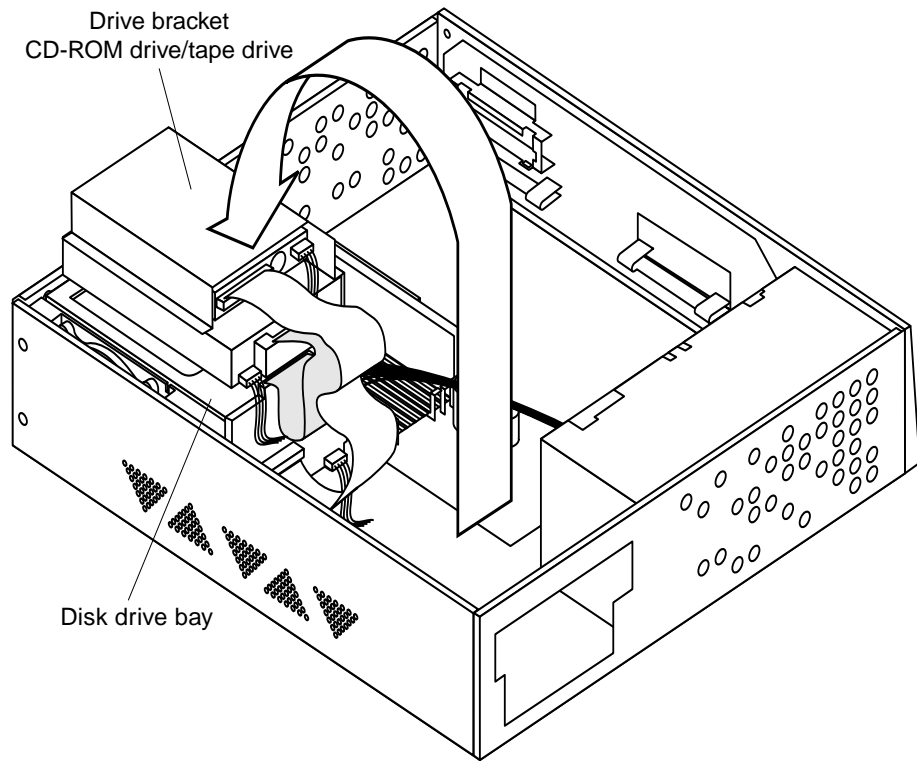

FIGURE 8-23 Placing the Bracket on Top of the Disk Drive
- 5. Position the CD-ROM/tape drive bracket as follows (FIGURE 8-23):**